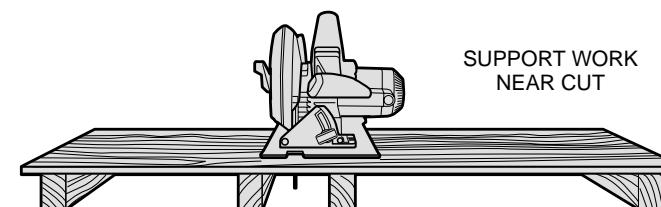

FIG. 16
- **SUPPORT LARGE PANELS.** Large panels must be supported as shown in Figure 16 to minimize the risk of blade pinching and kickback. When cutting operation requires the resting of the saw on the work piece, the saw shall be rested on the larger portion and the smaller piece cut off.
- **GUARD AGAINST KICKBACK.** Kickback occurs when the saw stalls rapidly and is driven back towards the operator. Release switch immediately if blade binds or saw stalls. Keep blades sharp. Support large panels as shown in Figure 16. Use fence or straight edge guide when ripping. Don't force tool. Stay alert—exercise control. Don't remove saw from work during a cut while the blade is moving.
To avoid kickback, DO support board or panel NEAR the cut, (Figure 16). DON'T support board or panel away from the cut (Figure 17).